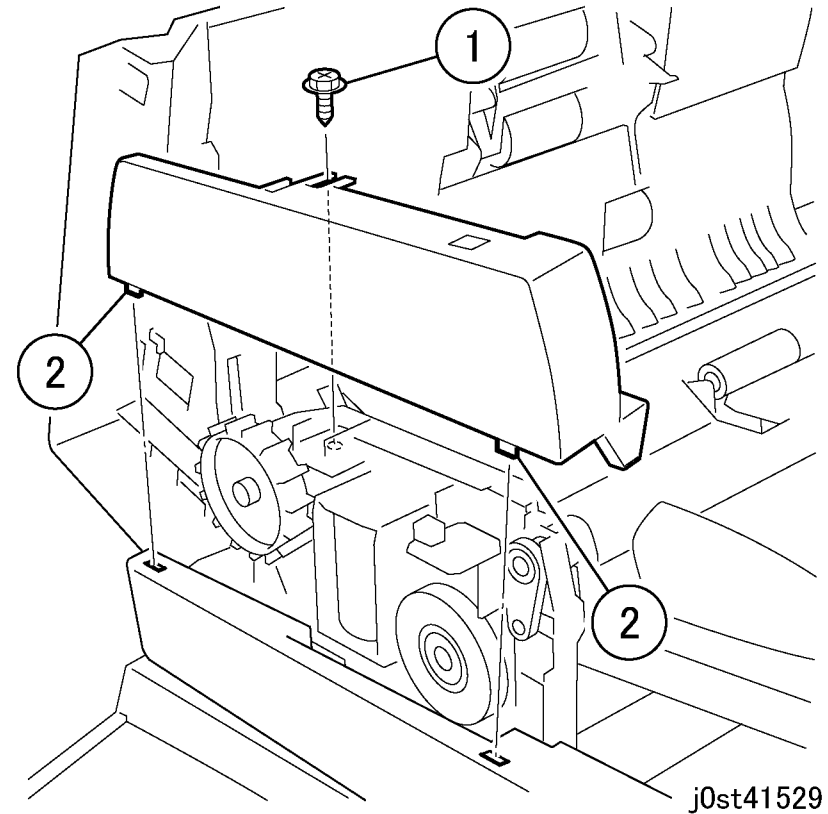

Figure 1 Removing the DADF Front Cover
2. Remove the DADF Front Cover (Figure 1).